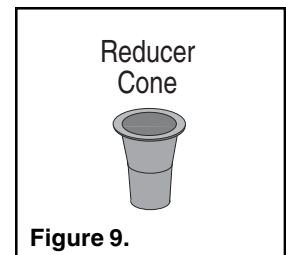

Figure 9.
5. The vacuum regulator must be installed in conjunction with the reducer cone, (see Figure 9). The reducer cone is required to make most skimmer connections. It will keep the hose and vacuum regulator in place once the filter system is stopped.